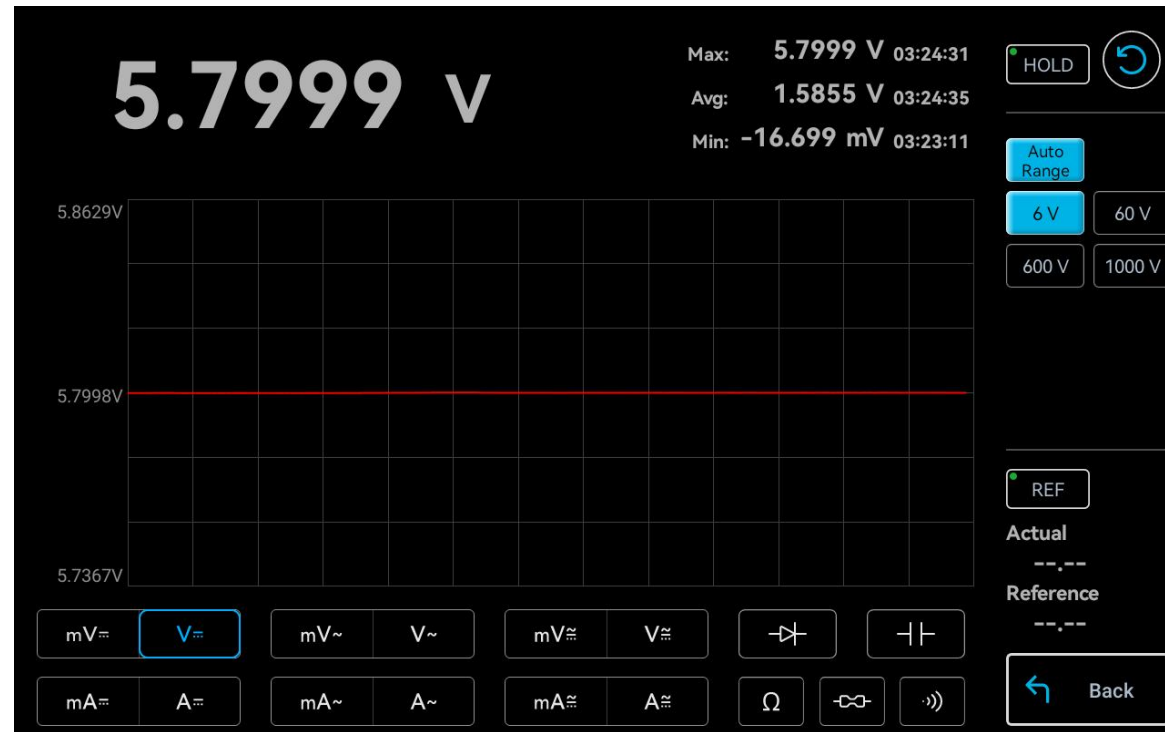

Figure 8-3 DC Voltage Measurement (V)
Test Steps: Select to enable the DC voltage measurement (V) in the measurement item selection area V_{DC} , as shown in Figure 8-3.